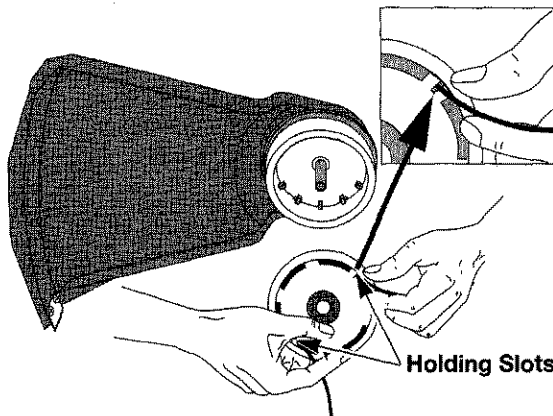

Fig. 20
8. Insert the ends of the line into the two holding slots and cut to the same length (Fig. 20).